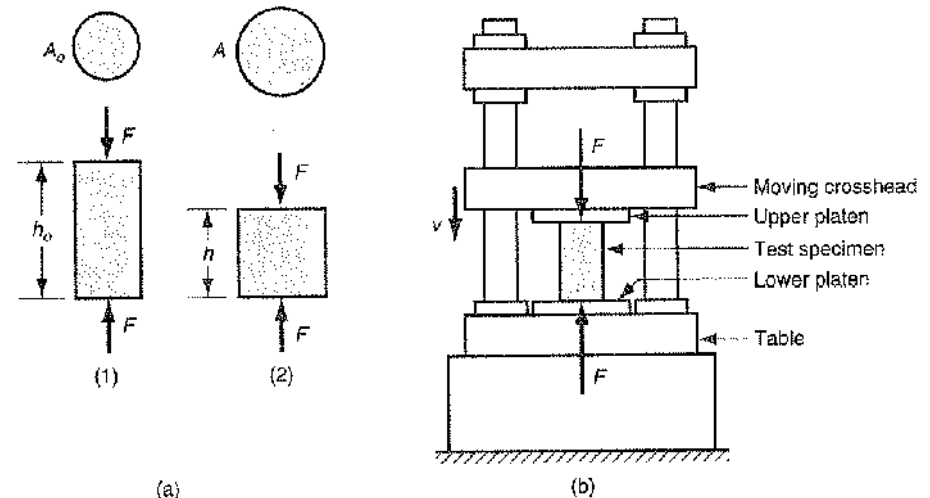

Fig. 3-8: Compression test: (a) compression force applied to test specimen in (1) and (2) resulting change in height; and (b) setup of the test.
- Compression test: a test that applies a load that squeezes a cylindrical specimen between two platens (see fig. 3-8). As the specimen is compressed, its height is reduced and its cross-sectional area is increased. The engineering stress is defined in the same way as in the tensile test; i.e.,